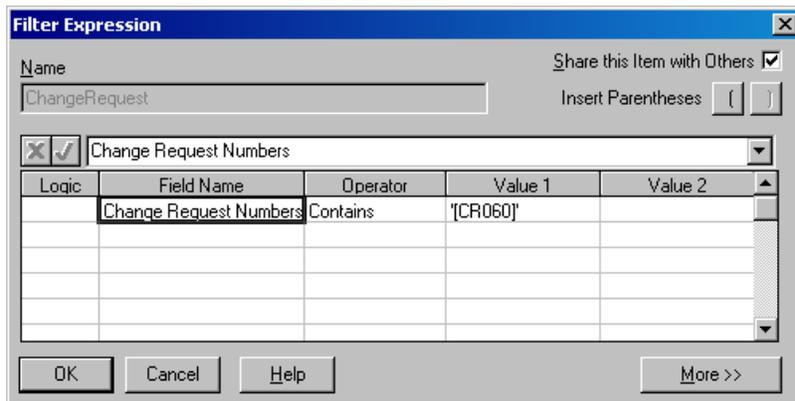

Figure 1 - Screen Shot of CR Filter Definition
- 15) Modify the definition of the filter called "Change Request" to refer to the CR being processed (See Figure 1 for snapshot of the filter definition dialog box.)